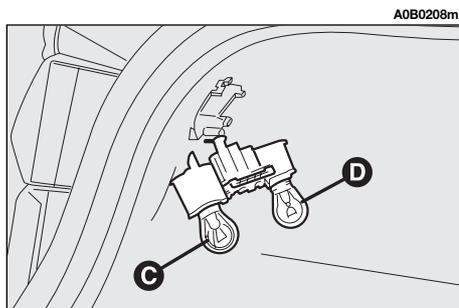

fig. 46
– Remove and replace the bulb concerned (spherical with bayonet coupling) pushing it gently and turning counter-clockwise (**fig. 46**).